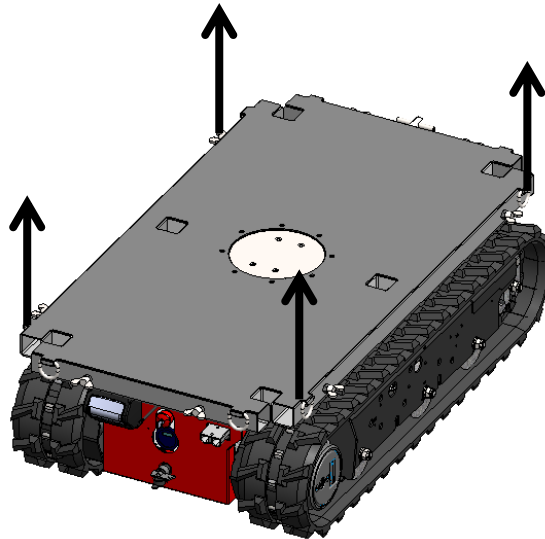

Figure: 24
- Lift the Tracked Carrier using lifting straps or chain slings with a capacity of at least 750 kg. Fit these to the four hoisting eyes on the side of the platform (see figure 24).